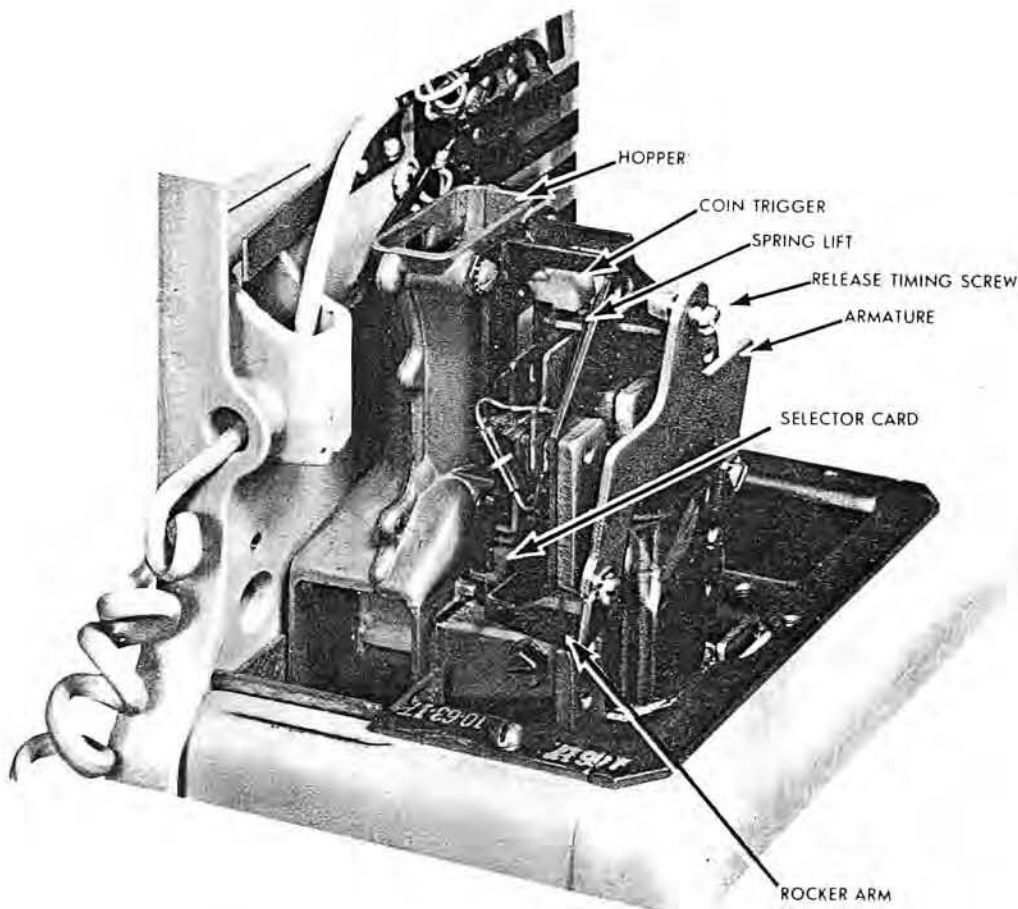

Figure 1. Single-Coil Coin Relay, Shown Installed,
2.01 If a trouble report indicates that dial tone is not returned after coin deposit (coin-first offices), or that dialing after deposit fails to break dial tone (tone-first offices), the coin-operated ground contact springs may be at fault. With the upper housing removed from the instrument and connected to the lower housing by a P-60605 test cord assembly, and with the P10E783 cover removed from the coin relay (see Figure 1), investigate as follows: